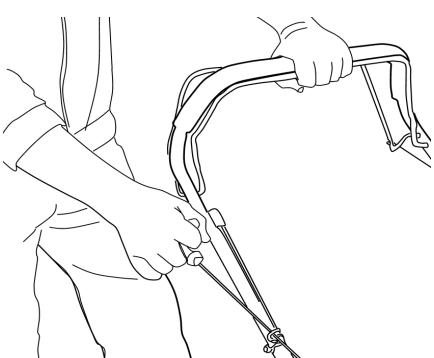

Fig.11
- Pull the brake bar towards the handle and hold it in position when starting the engine. Keep it squeezed during operation (Fig. 11).
- Pull the brake bar towards the handle and pull on the recoil starter handle to start the engine (Fig.11)